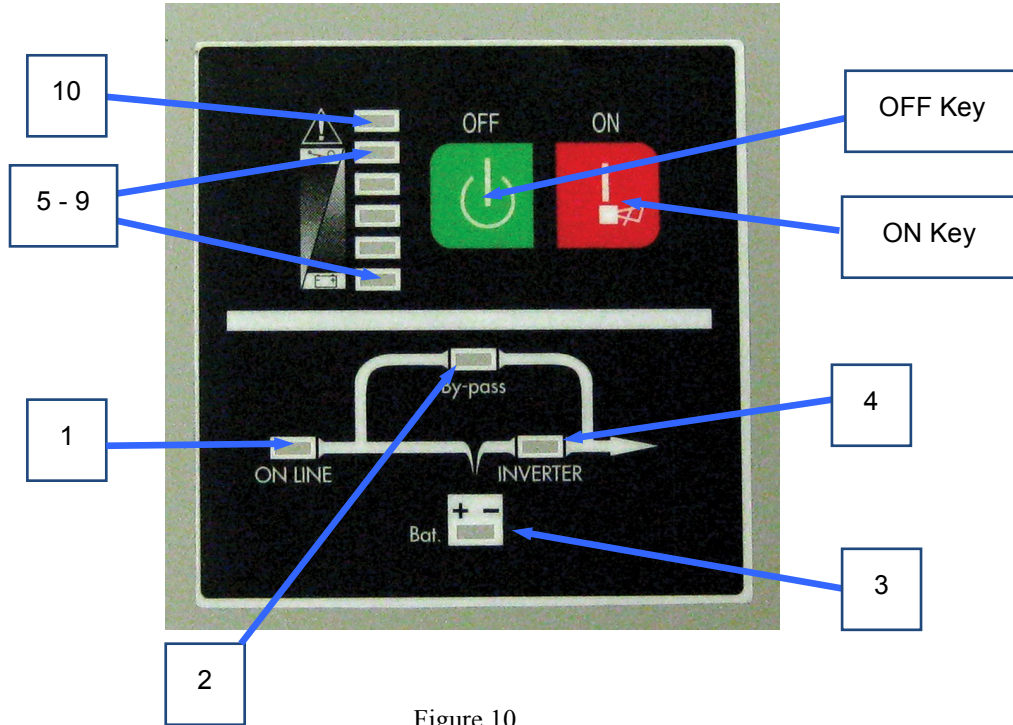

Figure 10
Refer to Figure 10 for descriptions of the Front Panel display's buttons and indicators.
- 8.1.3.2. The Processor perform a series of checks (These checks will be indicated by the display panels (see Figure 10) cycling through their LED’s).